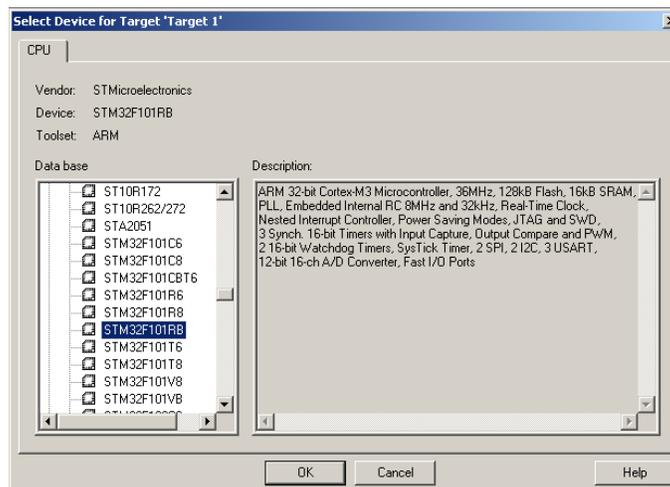

Figure 9 Keil Device Database
7. The window "Select Device for Target 1" shown in Figure 9 opens up.
9. Locate the STMicroelectronics directory, open it and select STM32F103RB (not R8). Note the feature list for this device is displayed in Figure 9. You are able to add new devices yourself.